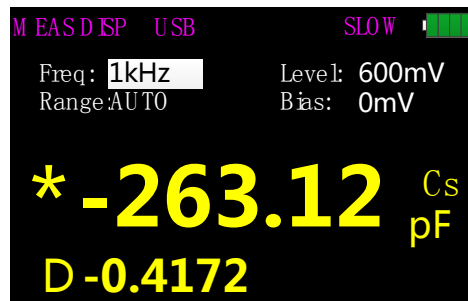

Figure 18
2. Press the **AUTO/R/C/L/Z** key until Cs is displayed on the interface which means to select capacitance measurement, shown in figure 18;